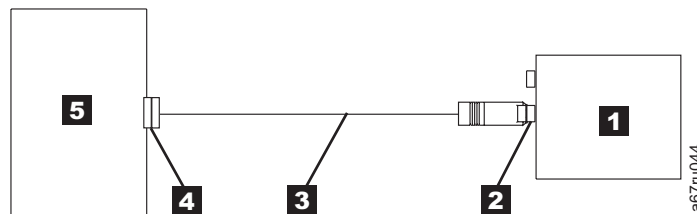
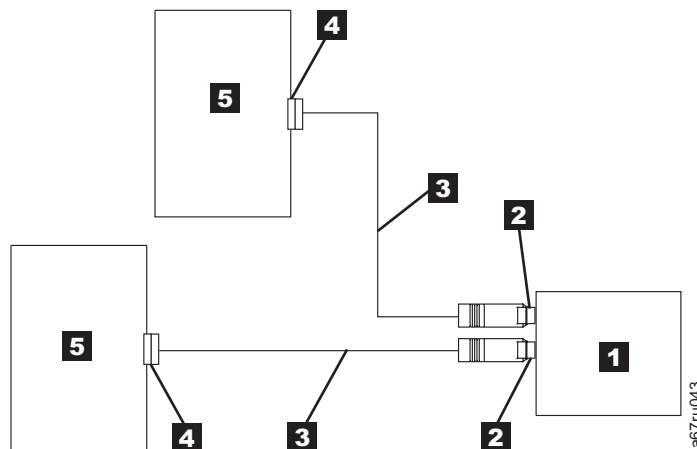

Figure 5. Example of connecting one SAS device to the server
Figure 6. Example of connecting the SAS device to two servers
3. The tape drive has two SAS ports and can be connected to two servers. Refer to the appropriate figure that represents your configuration for cabling information (see Figure 5 or Figure 6). Then, connect the SAS cables to SAS host adapters and to the tape drive as shown.